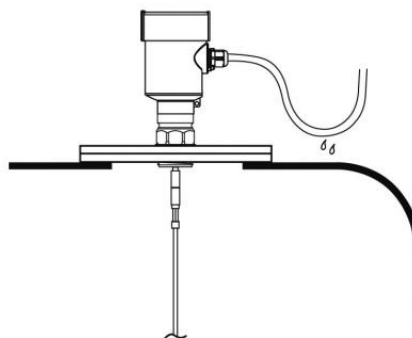

Figure 8
2.4 Moisture-proof treatment: For instruments installed on tanks that are mechanically cooled or heated in damp indoor environments, in order to prevent moisture, the cable gland should be tightened and the cable should be bent downwards at the inlet (as shown in Figure 8).